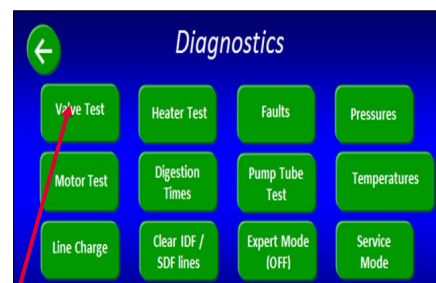

Figure 13
10. **Note: If the Enzyme Pinch Valve is labeled "TDF55" steps 11 and 12 can be skipped because the valve will always be open when it is not energized.** For the version of Pinch Valve that is not labeled "TDF55", to replace the Enzyme Pinch Valve tubing, you will need to open the valve. From the Control Box click the "Diagnostics" button and select "Valve Test". Refer to Figure 13.